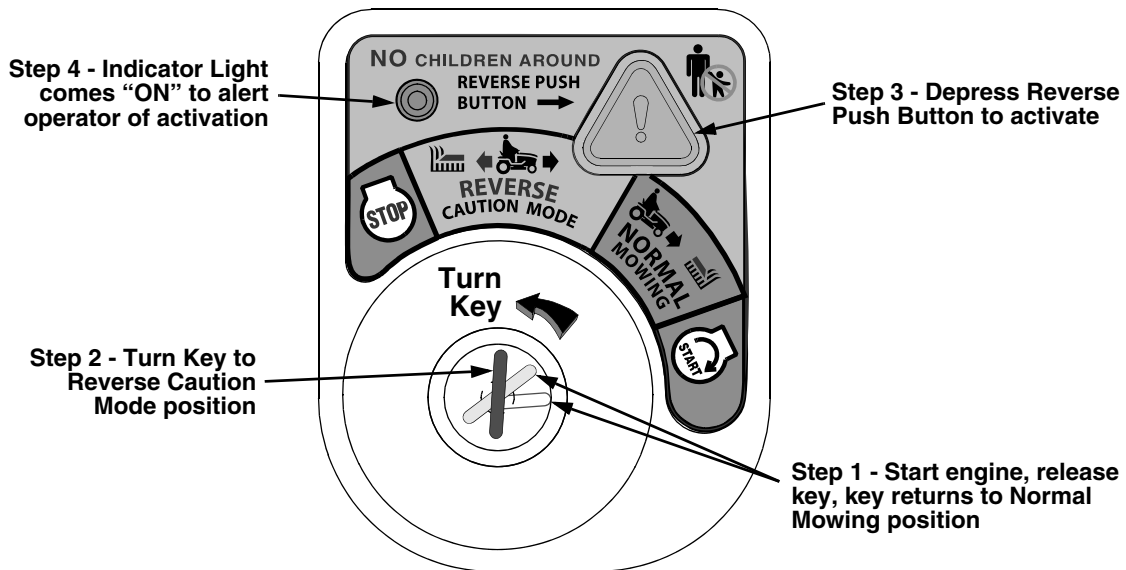

Figure 4-2
MODE” (Yellow) position of the key switch module. Refer to Figure 4-2.
3. Depress the “REVERSE PUSH BUTTON” (Orange/Triangular Button) at the top/right corner of the key switch module. The red indicator light at the top/left corner of the key switch module will be “ON” while activated. Refer to Figure 4-2.